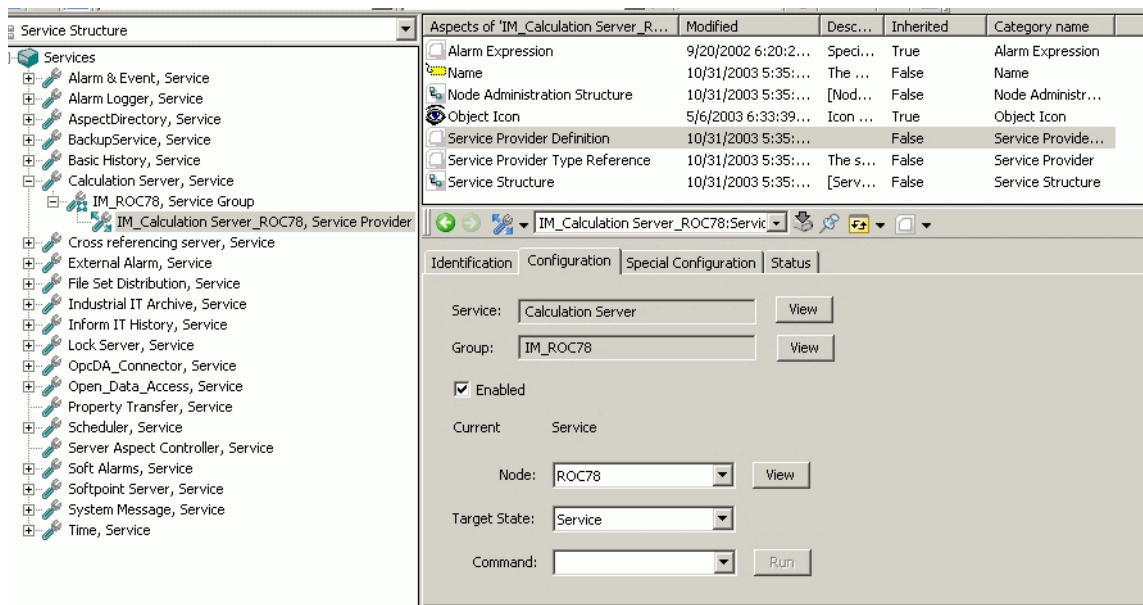

Figure 2. Configuring a Calculation Service Provider
3. Configure the service provider object to point to the node where the service (in this case Calculations) must run (reference Figure 2).